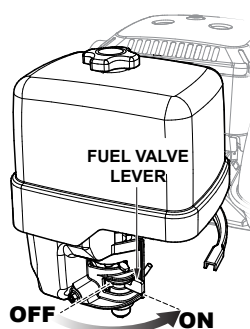

Figure 11. Engine Fuel Valve Lever (ON Position)
1. Place the engine fuel valve lever (Figure 11) to the "ON" position.